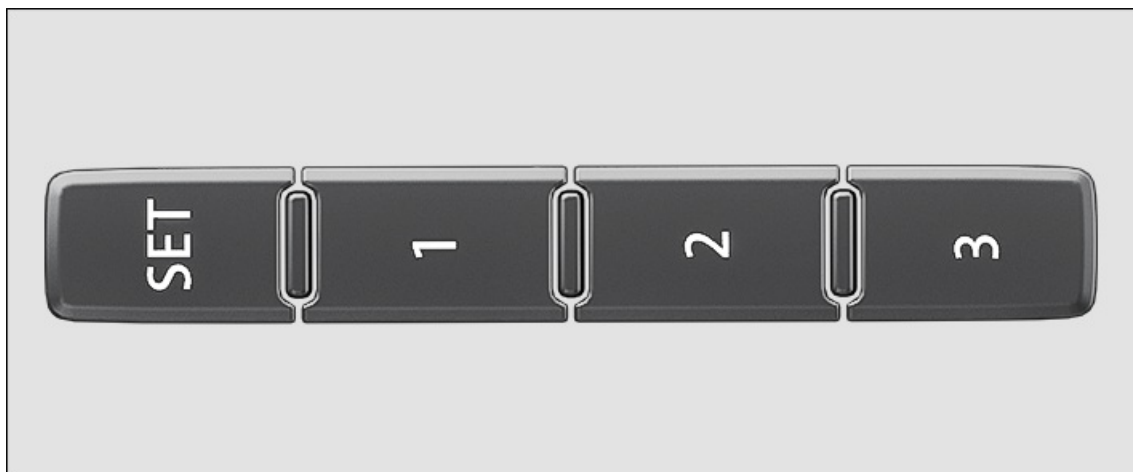

Fig. 78 On the outer side of the driver's seat: memory buttons.
5. Press and hold the **(SET)** button *fig. 78* for longer than one second.
4. Press the desired memory button *fig. 78*.